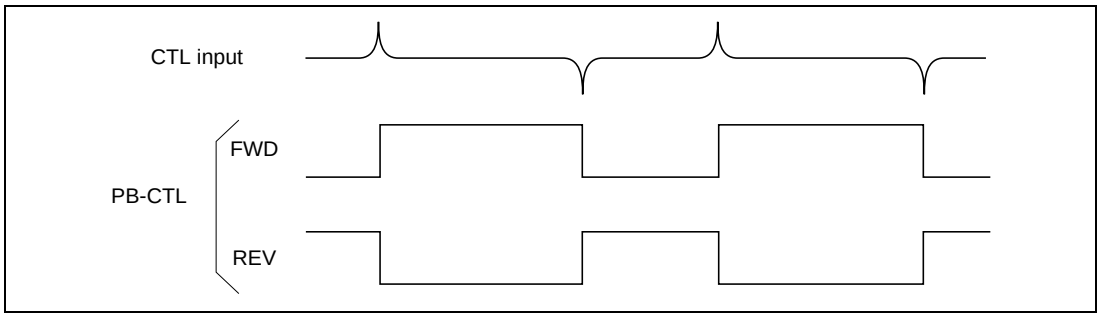

**Figure 26.48 Internal PB-CTL Signal in Forward and Reverse**
**Bit 5—Direction (FW/RV):** Selects the direction in playback. Clear this bit to 0 during record. Figure 26.48 shows the PB-CTL signal.